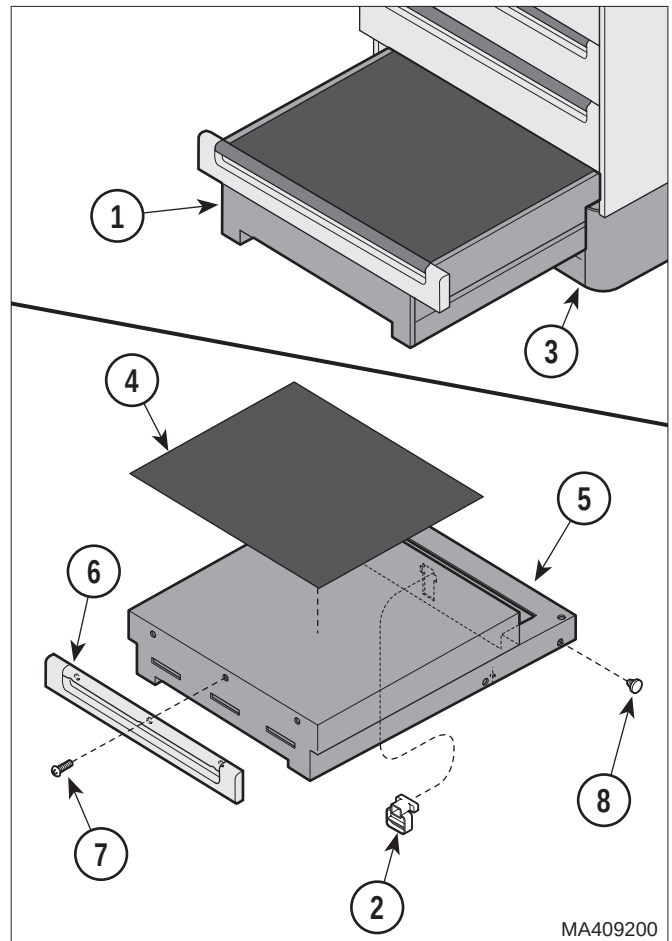

Figure 4-8. Step Components Removal / Installation
- (1) Unplug the table power cord from the wall outlet.
- (2) Pull out on the step assembly (1, Figure 4-8) until it is fully extended.
- (3) While lightly pulling the step assembly outward, reach beneath it and push the step stop (2) upward until it clears the base weldment (3); then remove the step assembly from the cabinet.
- (1) Remove the three screws (7, Figure 4-8) that secure the drawer front (6) to the step weldment (5) and remove the drawer front.
- (2) Install the drawer front (6) on the step weldment (5) and secure with three screws (7).
- (3) Inspect the nylon stem bumpers (8) on the step weldment (5) and replace if necessary.
- (4) Inspect the nylon stem bumpers and bumper stops (not shown) on the runners of the base weldment (3) and replace if worn.
When inserting step assembly into the cabinet the step will have to be lifted slightly to clear the lock tabs at the bottom of the step assembly. It will also be necessary to push up on the step stop (2, Figure 4-8) in order for the stop to clear the base weldment.